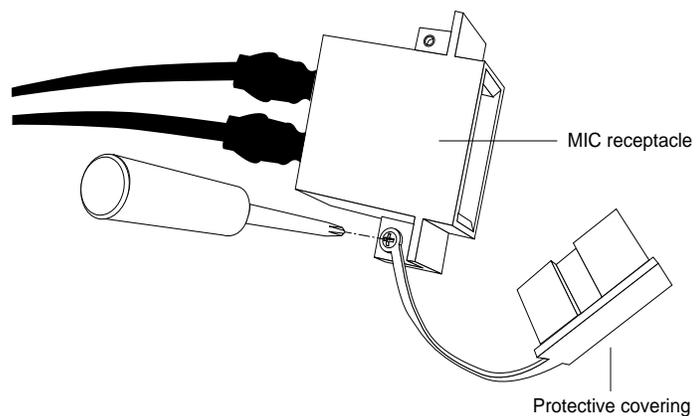

Figure 1-13 Removing the protective covering from the MIC receptacle
1. Remove the protective covering from the MIC (media interface connector) receptacle at the end of the FDDIXPI board's cable, as shown in Figure 1-13.